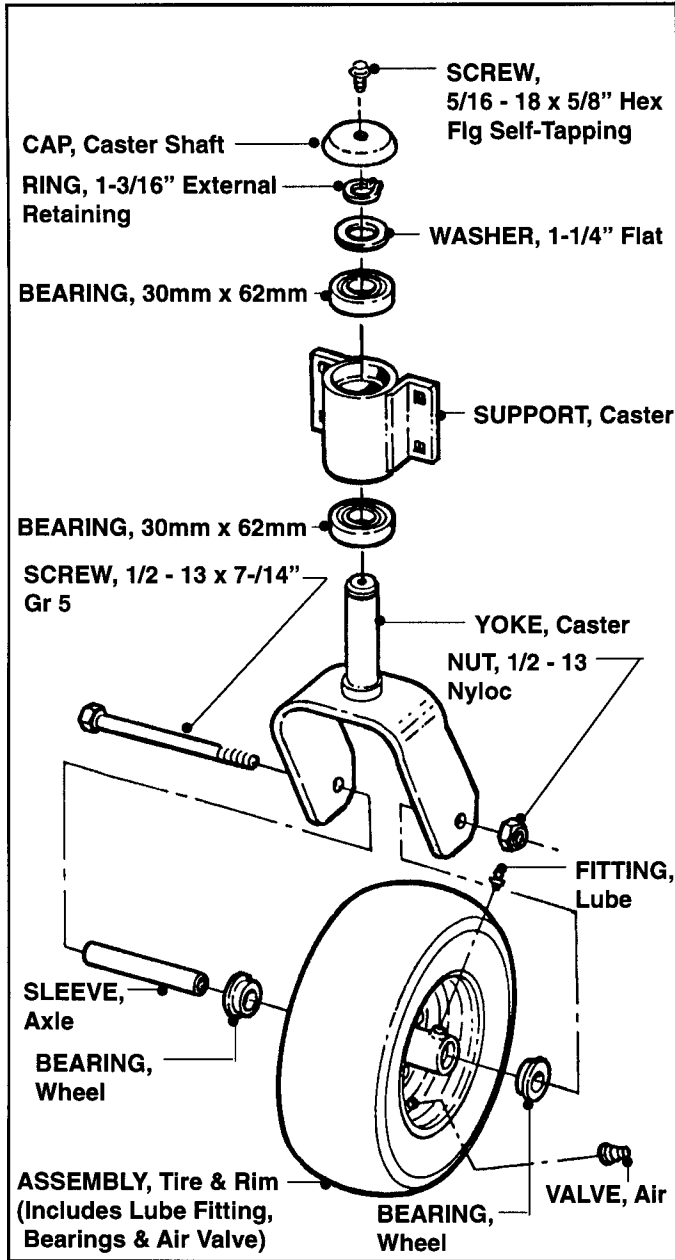

FIGURE 7.1
Components of the Caster Wheel Assembly are shown in Figure 7.1.
1. Remove 1/2 - 13 x 7-1/4" Screw and 1/2 - 13 Nyloc Nut from Caster Wheel. Refer to Figure 7.1.
Items such as the Tire & Rim Assembly, Caster Yoke, Spacer Tubes and Retaining Hardware may be replaced with new parts during any reassembly sequence. Consult Parts Manual No. 06106 (Rev.2, 11/97), & No. 06113 (Rev. 3, 1/14/00) for replacement numbers. Refer to Figure 7.1.